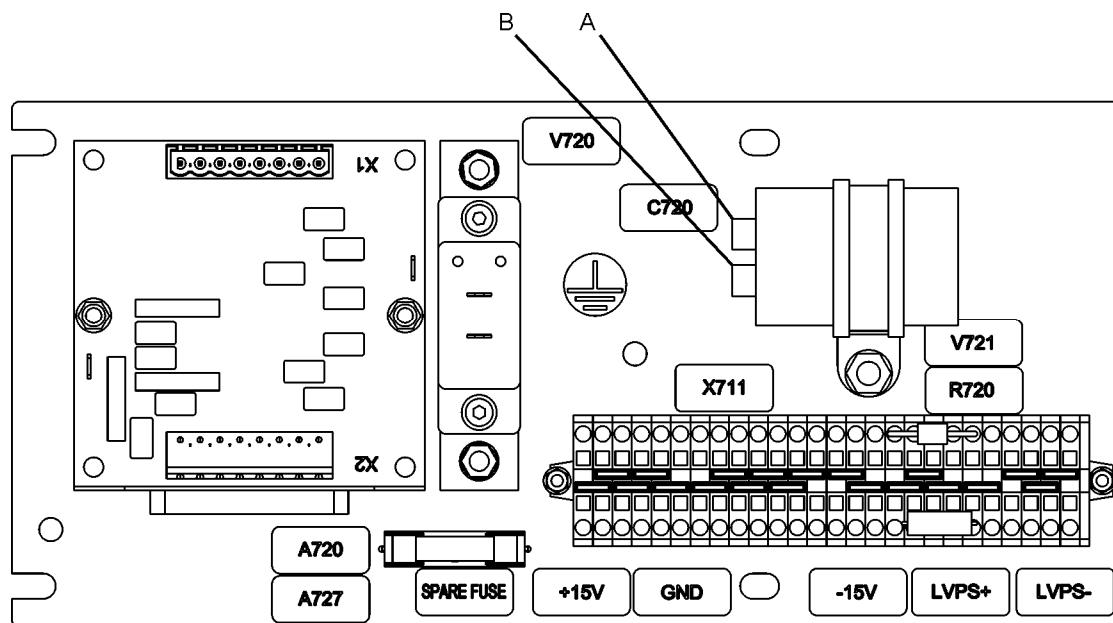

Figure 5-58: C720 Electrical Connections
- a. There are two cable attachments (see Figure 5-58) labeled A & B which connect to the C720 using M5 crews, M5 washers and M5 Schnorr washers. Disconnect these cables.
- a. There are two cable attachments (see Figure 5-58) labeled A & B which connect to the C720 using M5 crews, M5 washers and M5 Schnorr washers. Connect these cables.